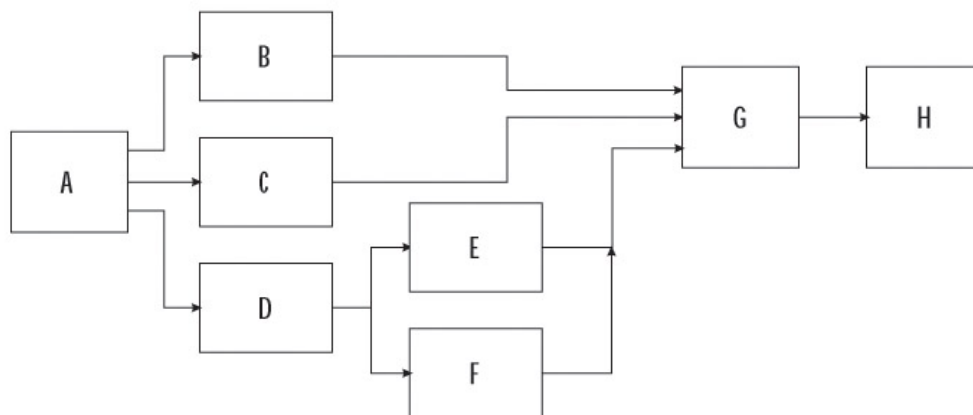

Figure 14.2: The dependency among essential processes is a template for the “ideal” workflow.
- Depict the dependencies graphically, as shown in Figure 14.2, just as you would if you were laying out a project plan.